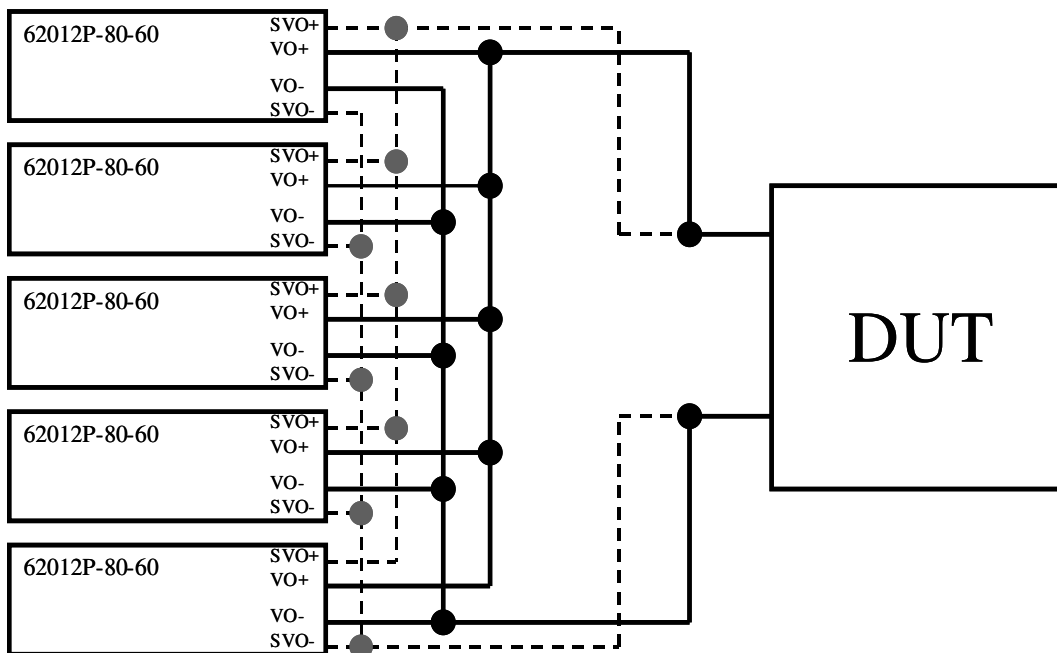
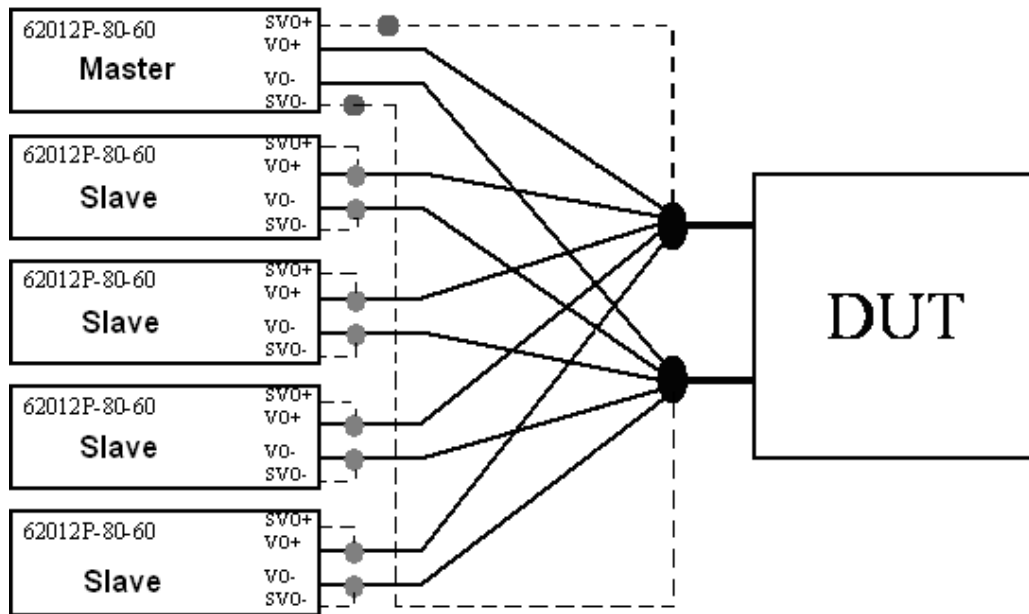

Figure 3-29
Figure 3-30
- Figure 3-29 is the parallel connection. For 62006P-30-80, 62012P-40-120 & 62024P-40-120, it is suggested to use the connection of Figure 3-30